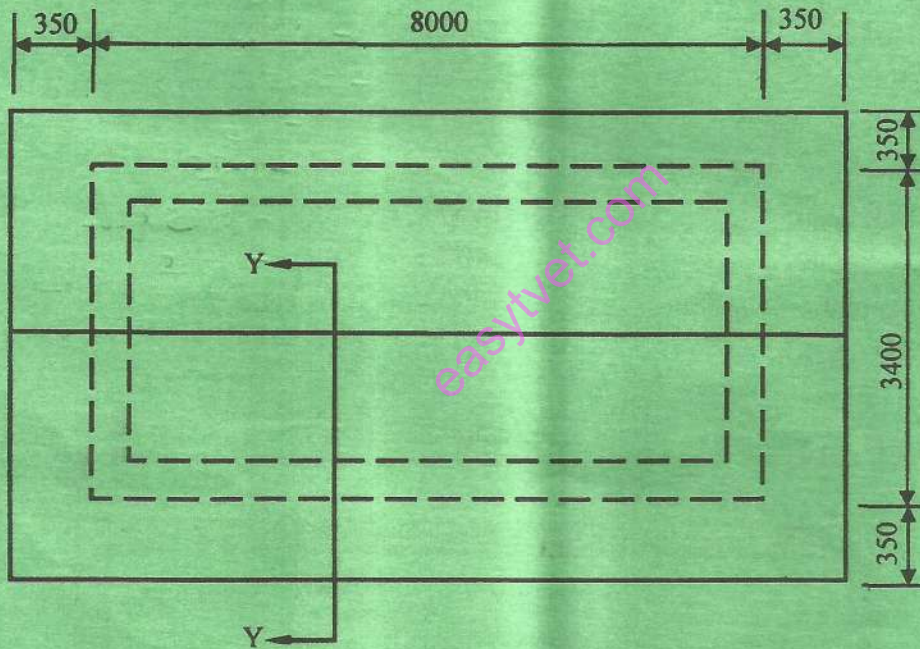

Fig. 4: Roof Plan
- (b) **Figure 4** shows a roof plan. To a scale of 1:10, draw section Y-Y using the information given. (15 marks)